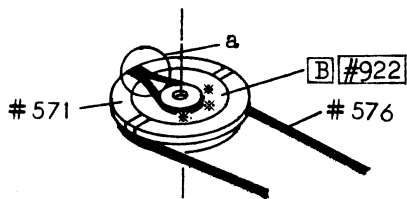

fig.1
- [R] Encircle and adhere the string #576 round inner boss of the pulley #571, as shown in fig.1.
String should be gathered (not crossed) at a, as shown in fig.1